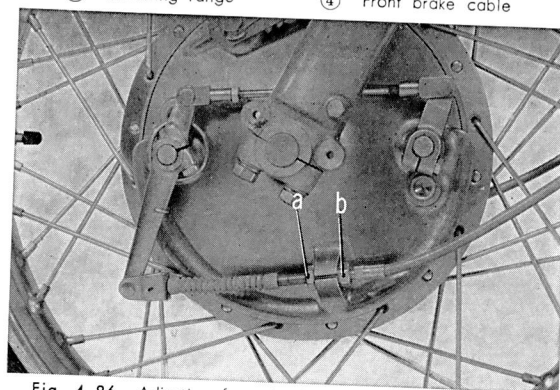

Fig. 4.86 Adjusting front brake lever play
- ① Front brake arm rod      ② Speedometer gear box
③ Installing range      ④ Front brake cable
7. Connect the front brake cable to the brake arm and adjust the free travel. The specified free travel is 15~30mm (0.6~1.2in). Make the adjustment with nuts "a" and "b". (Fig. 4.86)